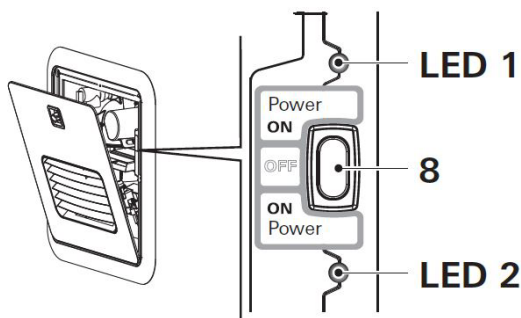

Fig. 8
2. To switch on the appliance, switch the POWER switch (Fig. 8 – 8) to one of the two “ON” positions.
When the green power ON LED 1 (Fig. 8 – LED 1) is lit, the appliance is switched on.
If the red error code LED 2 (Fig. 8 – LED 2) is lit / flashes, there is a fault or warning (refer to “APPENDIX A – Error Codes” on page 69).
3. Switch off the appliance at the POWER switch (Fig. 8).
- The green Power-ON LED 1 (Fig. 8) extinguishes.